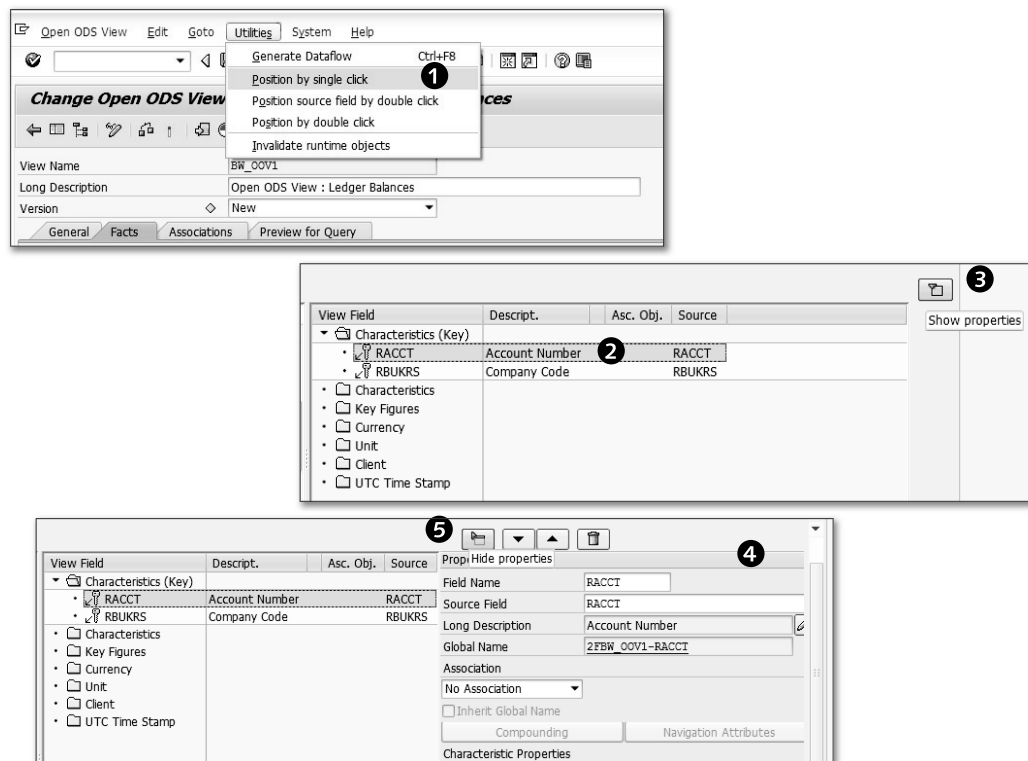

Figure 6.81 Opening the Properties for a Field
- ▶ From the menu bar, select UTILITIES • POSITION BY SINGLE CLICK (1 of Figure 6.81). After selecting this option, whenever you click on a field under the VIEW FIELD column, the PROPERTIES section opens for the selected field.
- ▶ Select a field under the VIEW FIELD column for which you want to open the PROPERTIES section, and click on SHOW PROPERTIES icon (3 of Figure 6.81).